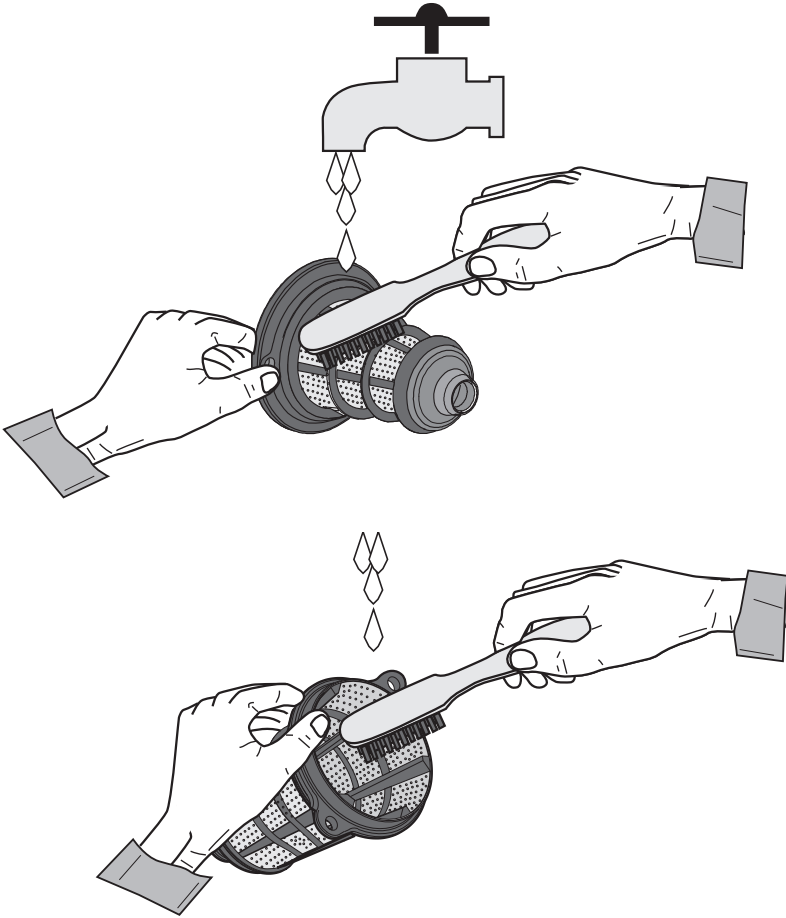

Fig. 5
- Use a brush (Fig. 5) to clean the sieve both inside and outside and the auger.